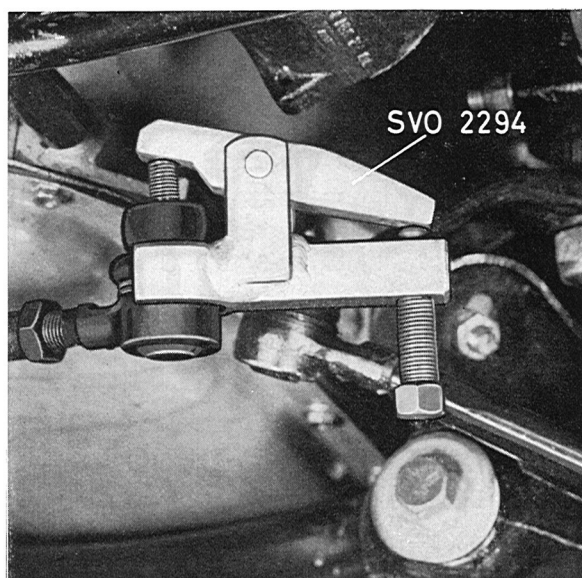

Fig. 6-64. Removing ball joint
pins and crown nuts. Then place tool 2294 on the ball joints as shown in Fig. 6-64. Press in the tool well and make sure that the thread on the ball joint enters the recess in the tool. Screw in the bolt until the ball joint loosens.
2. Disconnect the steering rod and tie rod ball joints from the relay arm with puller 2294 as shown in Fig. 6-64.
2. Disconnect the ball joint for the steering rods and tie rod from the relay arm with puller 2294 as shown in Fig. 6-64.